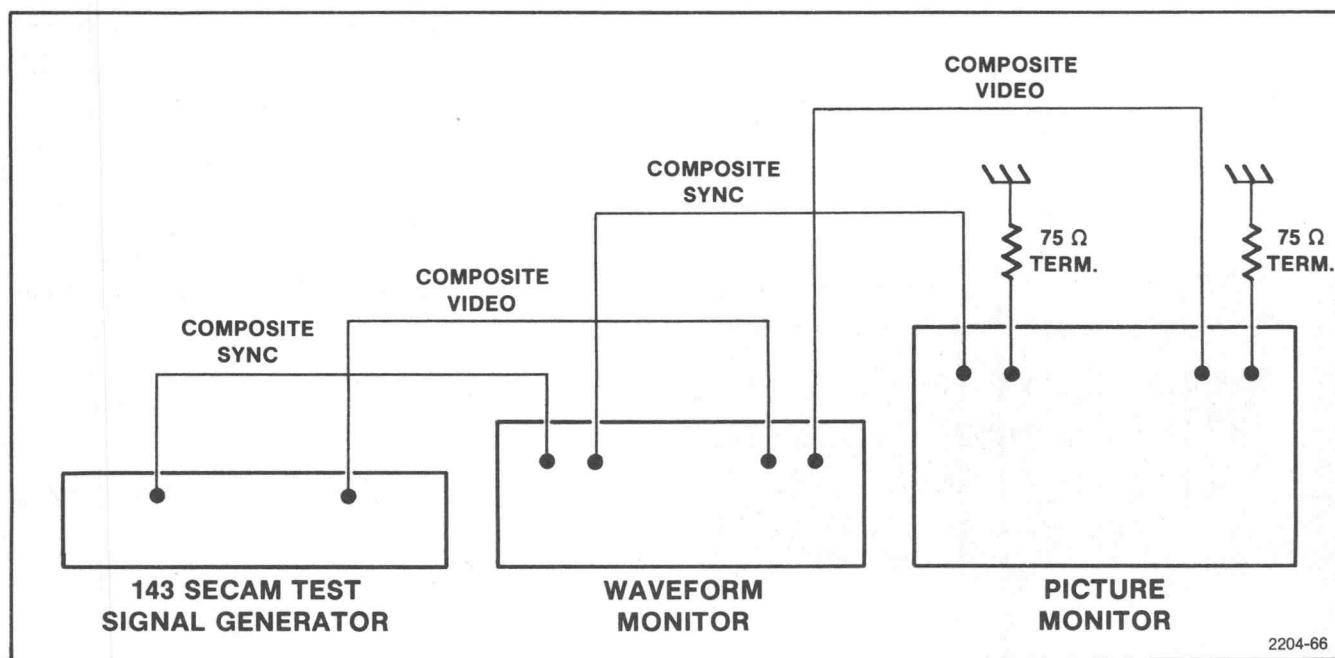

Fig. 6-19. Connections for test equipment.
- a. Connect the 143, waveform monitor, and picture monitor as shown in Fig. 6-19.